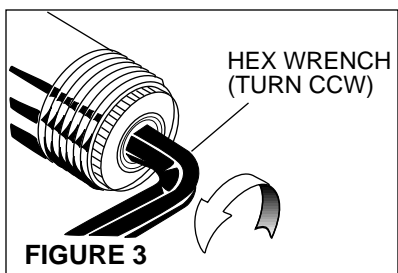

FIGURE 3
4. Insert HEX WRENCH (provided) into center of the insert as shown in Figure 3. Hold knurled edge of the insert with thumb and forefinger, to prevent rotation.